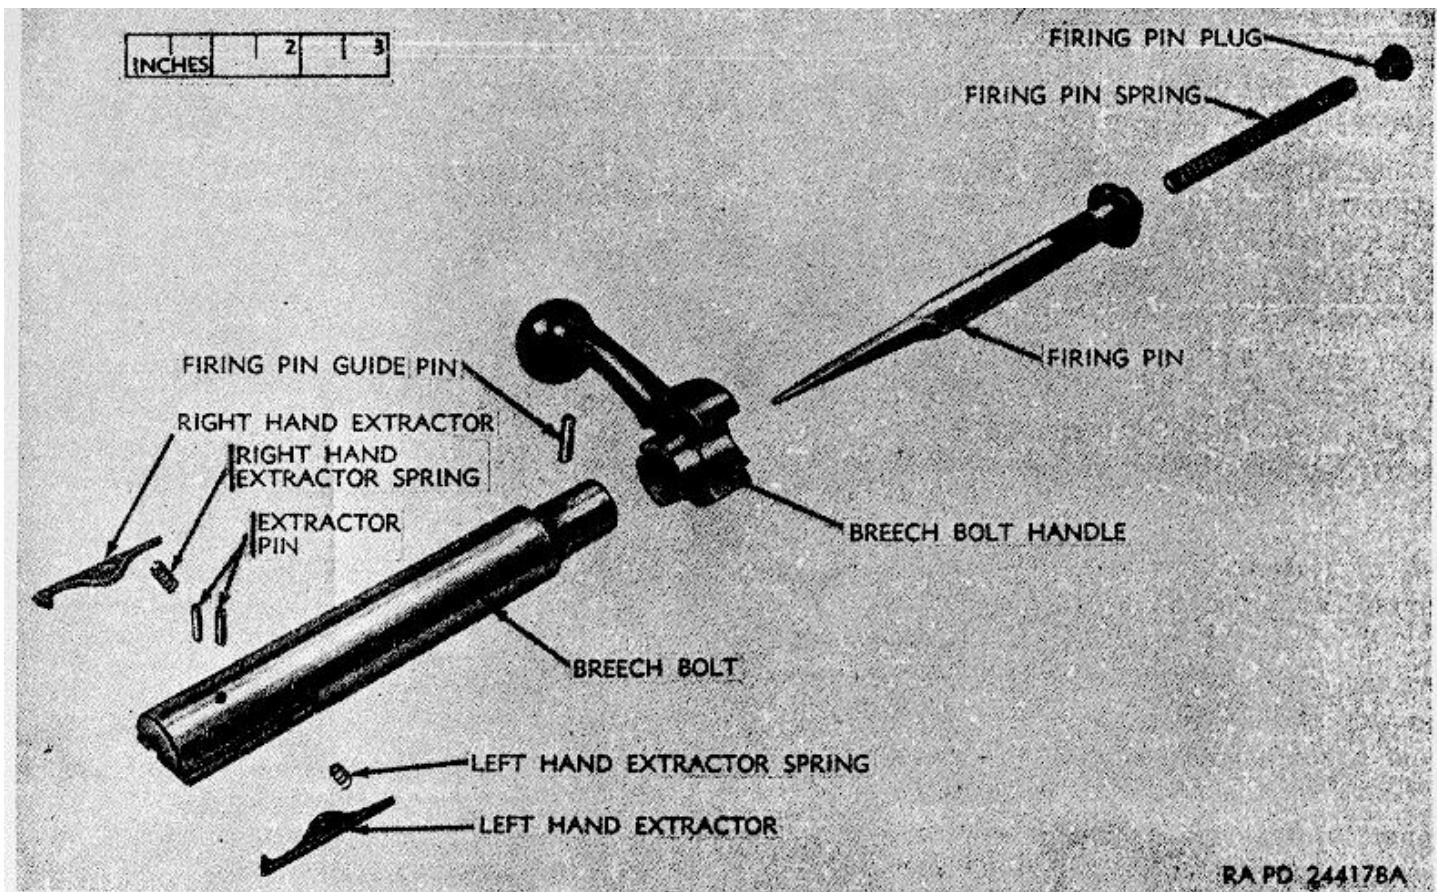

Figure 59. Breech bolt assembly-exploded view (Winchester rifle M52 (HB)).
a. *General.* The breech bolt assembly (fig. 59) consists mainly of the breech bolt and handle, the firing pin, spring, plug and guide pin, the left-hand and right-hand extractors, extractor springs, and pins.
- (1) Place the rear shoulder of the firing pin (fig. 59) in a vise between copper jaws, and do not grip the breech bolt handle between the jaws.
- (2) With the breech bolt handle in the uncocked position, one man pulls the breech bolt from the breech bolt handle and firing pin against the tension of the firing pin spring, until the firing pin guide pin is exposed on the rear shoulder of the breech bolt.
- (3) Another man then drifts the firing pin guide pin out of its holes in the breech bolt and firing pin. Removing the guide pin releases the tension of the firing pin spring and separates the firing pin and breech bolt handle from the breech bolt.
- (1) Install the right-hand extractor spring (fig. 59) in its seat in the front of the breech bolt. Compress the spring with the right-hand extractor (hook shaped) until the holes in the extractor and breech bolt are alined: insert extractor pin in holes. Install the lefthand extractor spring (fig. 59) in its seat in the breech bolt; compress the spring with the left-hand extractor (claw shaped) until the holes in the bolt and extractor are alined; install extractor pin in holes. Extractor pins must not protrude from breech bolt.
- (2) Place the breech bolt in a vise, between copper jaws, with the small end protruding. Slide the breech bolt handle over the small end of the breech bolt.
- (3) Slide the firing pin spring into its seat in the firing pin, and insert the firing pin with the striker end leading, and the flat surface